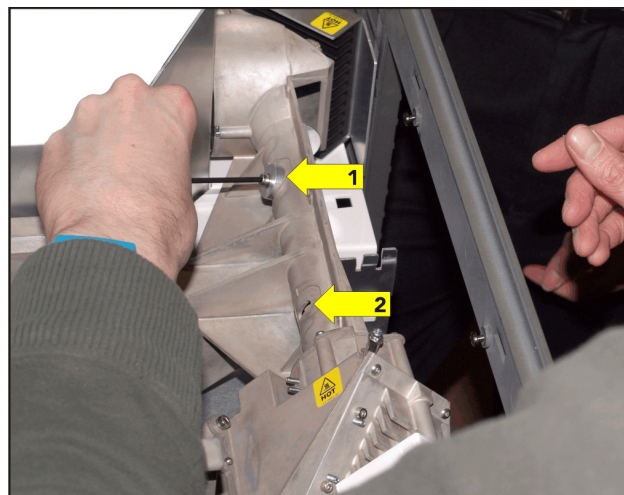

Figure 5-67 Remove Adjustment Screws
8. Remove the two rotational integrator adjustment screws (Figure 5-67).